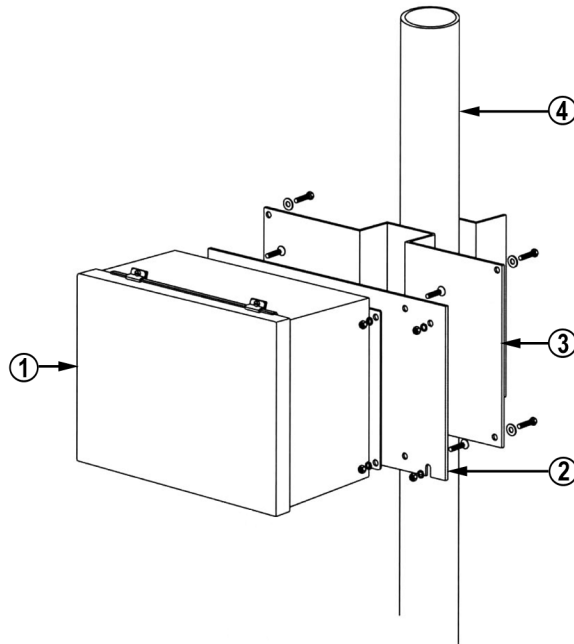

Figure 10 Power Supply and Mount
4. After these four screws are tightened, mount the entire assembly on the pole mast, using the four hex-head screws as shown in Figure 10 on page 27. The customer must provide the pole mast and the pole mast installation plate.
The following numbers refer to Figure 10 on page 27: